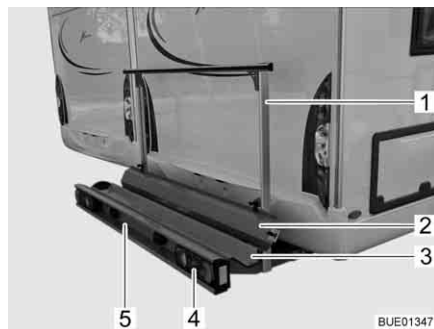
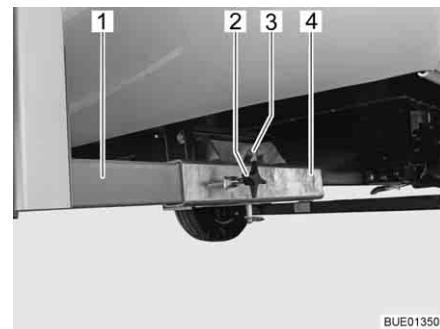

Fig. 9 Load rack
Fig. 10 Attachment to vehicle
The load rack (Fig. 9) permits transport of a motorcycle or a motor scooter weighing up to 130 kg.
- Rack trough (Fig. 9,3) and retaining clip (Fig. 9,1) with attachment to vehicle (Fig. 10)
- Rear lights (Fig. 9,4)
- Vehicle licence plate light (Fig. 9,5)
- Ramp (Fig. 9,2)
The two side members (Fig. 10,1) of the load rack are fixed to the floor of the vehicle by means of tommy screws (Fig. 10,2) on the square drives (Fig. 10,4). The load rack is secured by a bolt (Fig. 10,3) with locking ring.